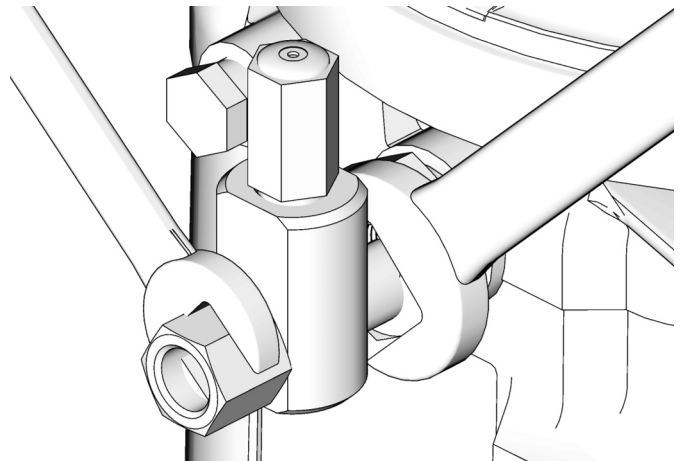

FIG. 15
1. Loosen pump element fitting (FIG. 15).
3. Tighten pump element fitting using two wrenches working in opposite directions (FIG. 15).